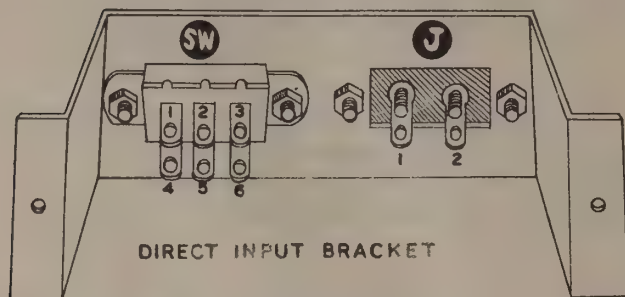

Figure 5
- (✓) Install binding post bases in each of the six holes at the bottom of the panel. Refer to Figure 5 and use the insulator bushings with a #6 solder lug under the nut. Position the solder lugs as shown in Pictorial 5 at positions SL1, SL2, SL3, SL4, SL5 and SL6.
- (✓) Connect a 220 K Ω resistor (red-red-yellow) from lug 3 (S) to lug 4 (NS) of the INTEN. control L. Dress as shown in Pictorial 6.
- (✓) Connect a 1 megohm 1 watt resistor (brown-black-green) from lug 3 (S) of FOCUS control K to the control solder lug (S) at K.